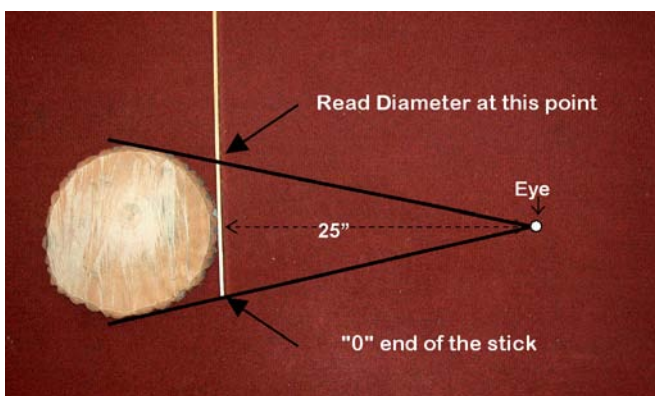

Figure 2b. Make sure the distance from your eye to the stick is 25 inches.
- b. Check the distance between your eye and stick to be sure it is 25 inches (Figure 2b). The “Diameter of Log” scale on the top of the opposite side of the stick is a ruler that can be used to check this distance. Make a mental note of the bend in your arm when the stick is 25 inches from your eye. For accurate diameter measurements it is critical that the stick is 25 inches from your eye. Check this distance frequently until you can consistently hold the stick at 25 inches.
- Using the “Diameter of Tree (inches)” scale on the top of the tree scale stick, adjust the stick so that the left side (“0” end) of the stick is in line with the left edge of the tree (Figure 2b).